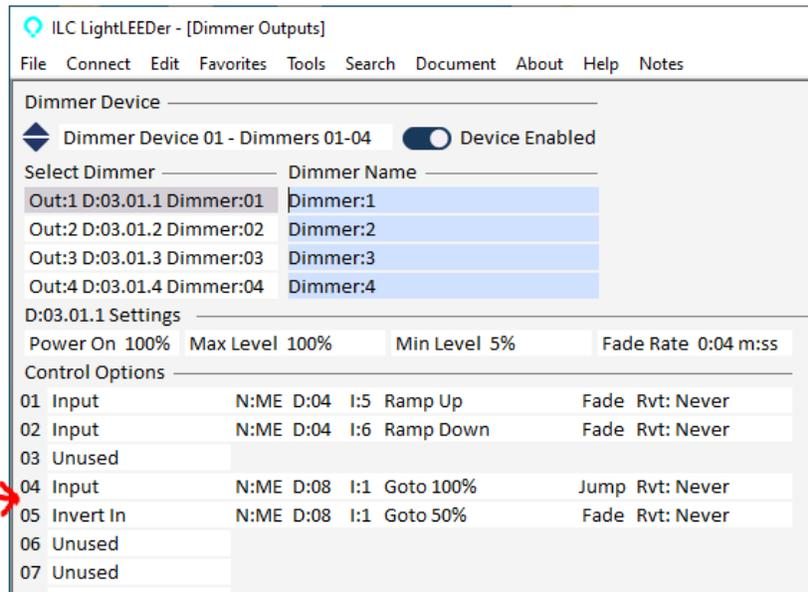

Figure 5 – Input to Dimmer Control
- F. Now that you have set-up the sensor input configuration settings you can map this sensor to control relay's On/Off for Occupancy or Off-Only for Vacancy operation. This may also include a Dimmer Control Option for occupancy and vacancy states – when the sensor triggers you can use an input control option line as a Goto 50%, or Goto 100% for On and use Invert Input to send the dimmer to 50% when no occupancy is sensed as shown in Figure 5.